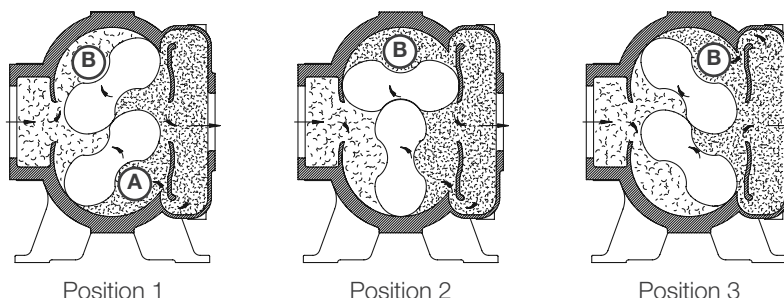

Figure 2 -Flow Through a RAS/RGS Whispair Blower
Operation of the proprietary RAS/RGS Whispair design blower from Howden is represented in Figure 2. Air flow again is left to right, with the lower shaft rotation
Considering Position 1 in Figure 2, known volume (A) is being delivered to the discharge chamber while space (B) is being filled with an equal volume at inlet pressure. In Position 2, this space has been sealed off from the inlet, but some discharge pressure is now entering space (B) through the slot passage, as indicated by the small arrows. Force of this jet gives a rotative assist to the impeller, while also building pressure in sealed space (B). Rotation continues to Position 3, where volume (B) is delivered to the discharge chamber in the same manner as volume (A) in Position 1. Because of the almost complete pressure equalization through the slot, shock is minimized.